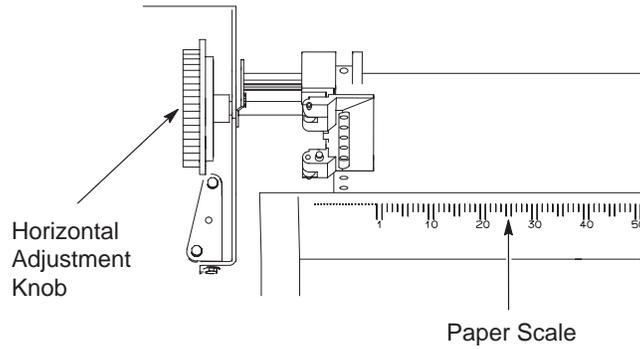

Figure 2–29. Aligning the Paper
8. Align the paper according to the paper scale on the shuttle cover by turning the horizontal adjustment knob. Turn the horizontal adjustment knob until the left tractor is aligned with the number “1” on the paper scale. (See Figure 2–29.)